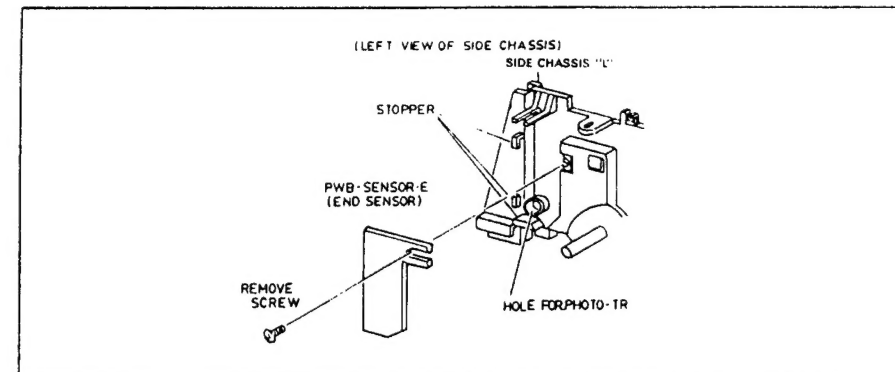

Fig. 16 Pwb End Sensor Removal
3. Pwb end sensor remove (Fig. 16)
• After removing the screw at the side chassis (L), disintegrate PWB end sensor.